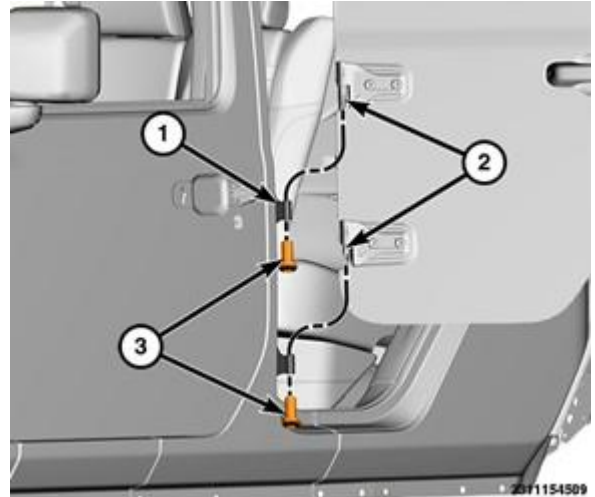

Figure 27 – Hinge Pin Nuts
- 23. Remove the nuts (3) and lift the door up off hinges (1) and remove (Figure 27).
45. Set the door into place on the hinges and install the door hinge pivot nuts. Tighten the nuts to 6N·m (53 in. lbs.) (Figure 27).